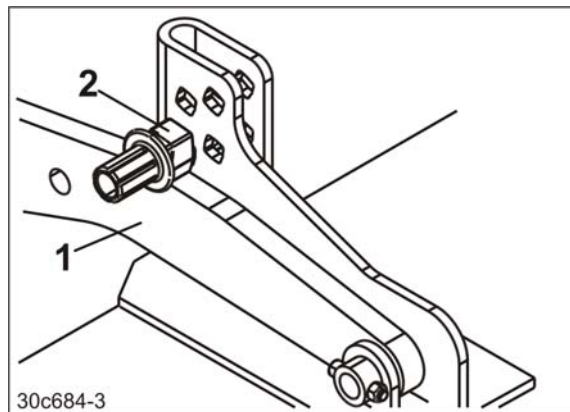

Fig. 116
- The carrying arms (Fig. 116/1) are supported by the depth setting pins (Fig. 116/2).
7. Check that both carrying arms (Fig. 116/1) are resting on depth setting pins.